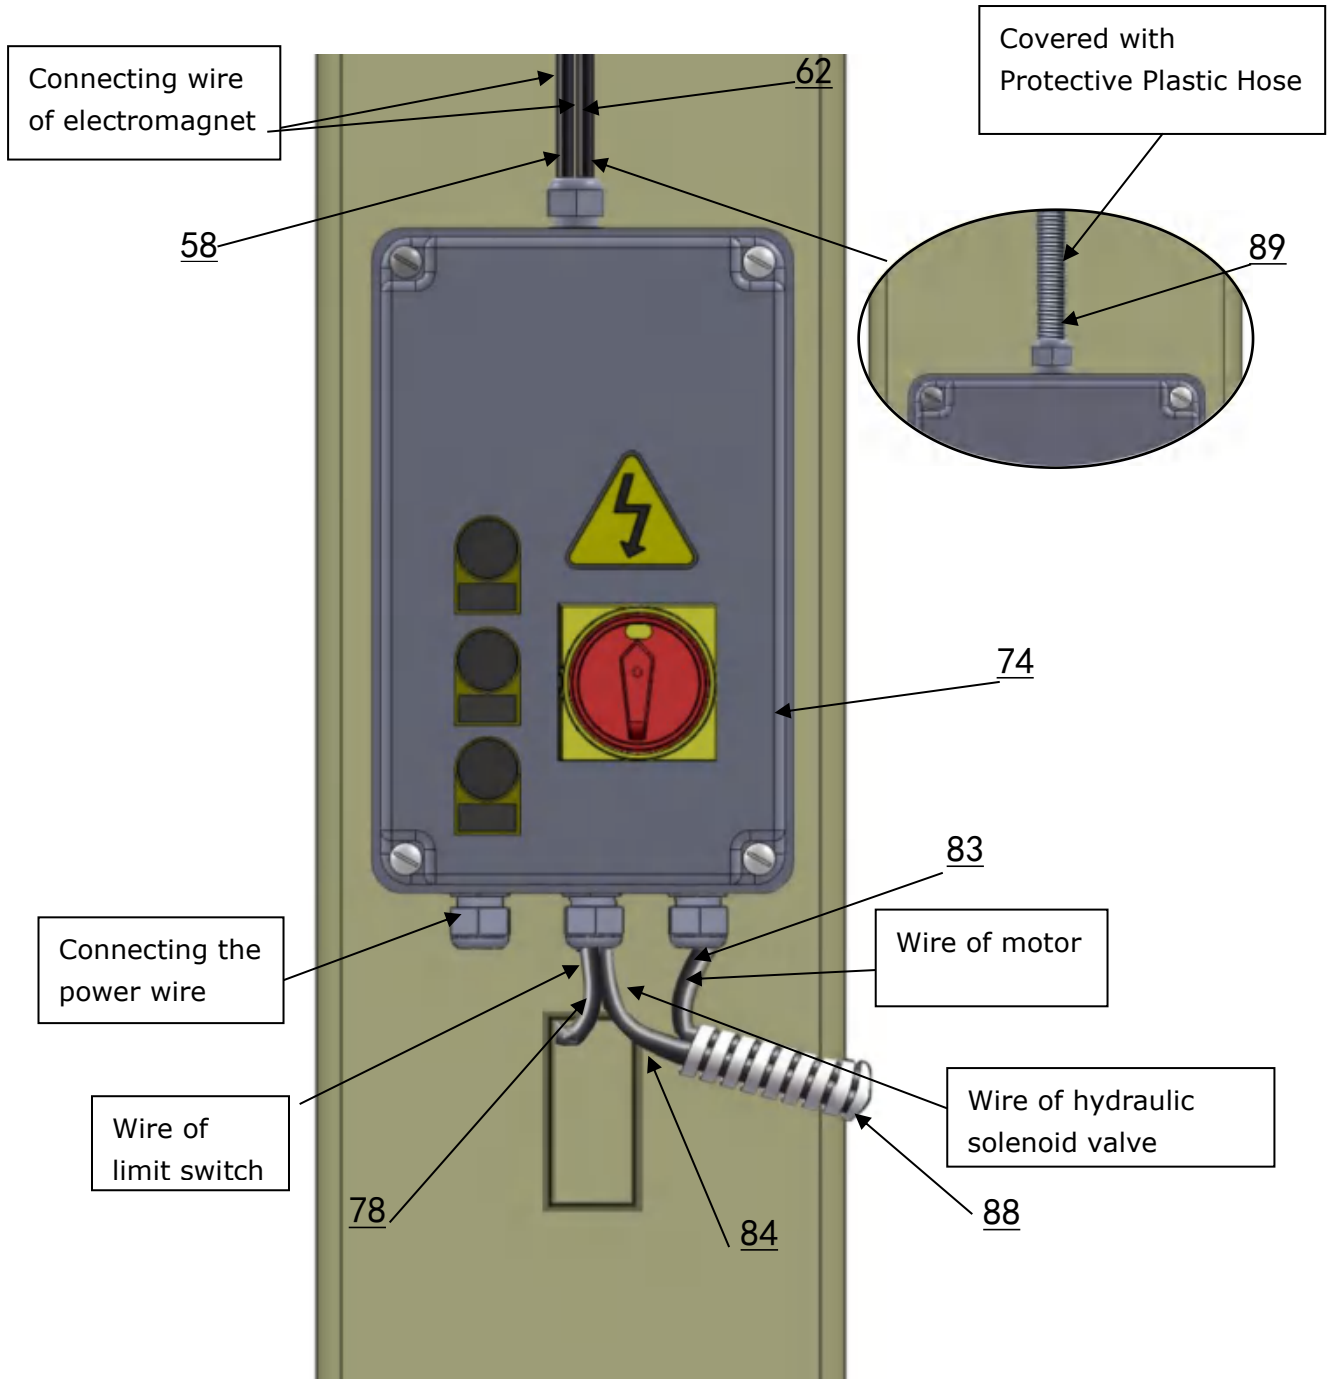

Fig.30
1. Connecting wire with control box (See Fig. 30).